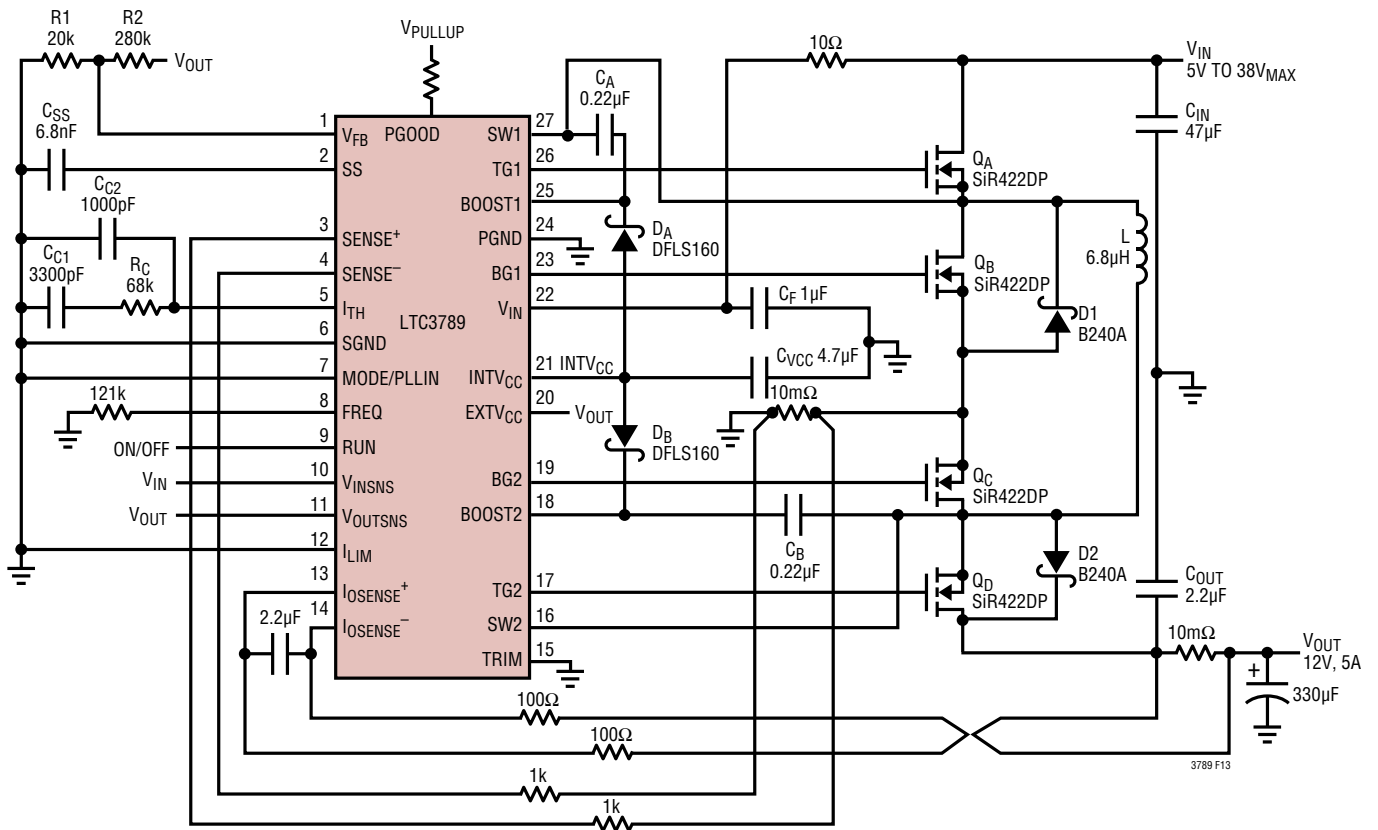

Figure 13. LTC3789 12V/5A, Buck-Boost Regulator
where R1 and R2 are defined in Figure 13.
Referring to Figure 13, the external bootstrap capacitors C_A and C_B connected to the BOOST1 and BOOST2 pins supply the gate drive voltage for the topside MOSFET switches A and D. When the top switch A turns on, the switch node SW1 rises to V_{IN} and the BOOST1 pin rises to approximately $V_{IN} + INTV_{CC}$. When the bottom switch B turns on, the switch node SW1 drops to low and the boost capacitor C_A is charged through D_A from $INTV_{CC}$. When the top switch D turns on, the switch node SW2 rises to V_{OUT} and the BOOST2 pin rises to approximately $V_{OUT} + INTV_{CC}$. When the bottom switch C turns on, the switch node SW2 drops to low and the boost capacitor C_B is charged through D_B from $INTV_{CC}$. The boost capacitors C_A and C_B need to store about 100 times the gate charge required by the top switches A and D. In most applications, a 0.1μF to 0.47μF, X5R or X7R dielectric capacitor is adequate.
- Flood all unused areas on all layers with copper. Flooding with copper will reduce the temperature rise of power components. Connect the copper areas to any DC net (V_{IN} or GND). When laying out the printed circuit board, the following checklist should be used to ensure proper operation of the LTC3789. These items are also illustrated in Figure 13.